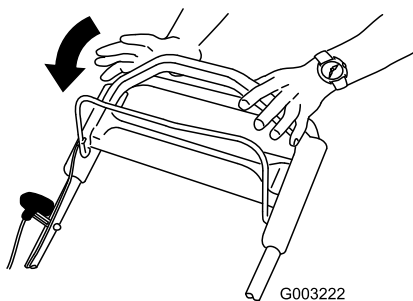

Figure 19
- Release the blade control bar (Figure 19).